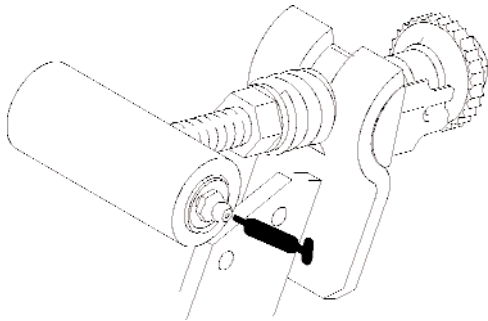
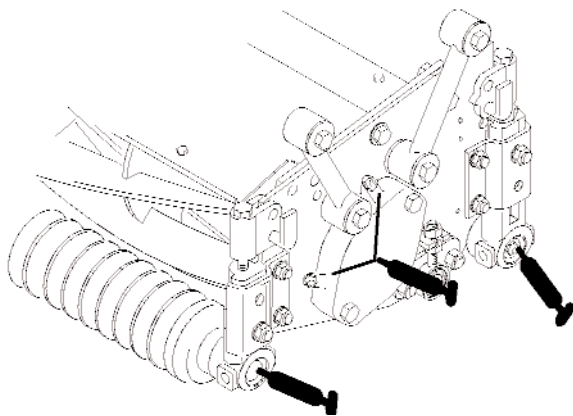

Figure 13
Figure 14
The grease fitting locations and quantities are: bedknife adjuster (2), every 50 hours (Fig. 13); reel bearings (2) and front and rear rollers (2 each) (Fig. 14).